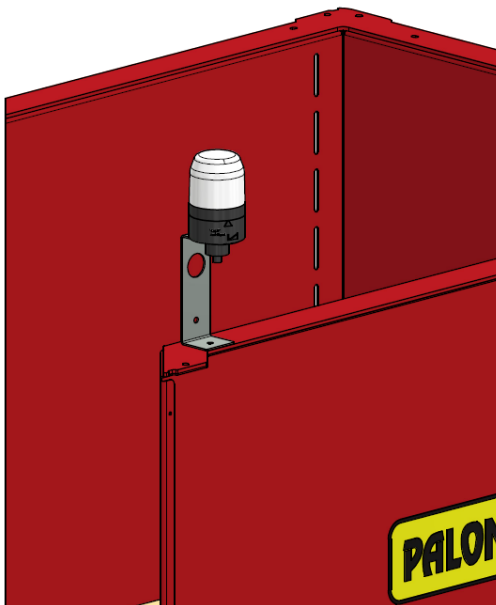

Figure 1
2. Mount the signal tower on the bracket and connect the cable see Figure 1.